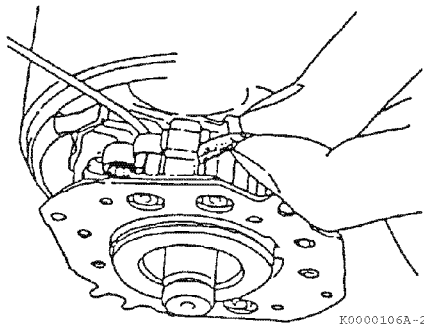

Figure 11-31
8. Position the brush springs in brush holders (**Figure 11-31**). Reinstall the brushes in the brush holders. Reversing the brushes will cause the starter motor to turn backwards.